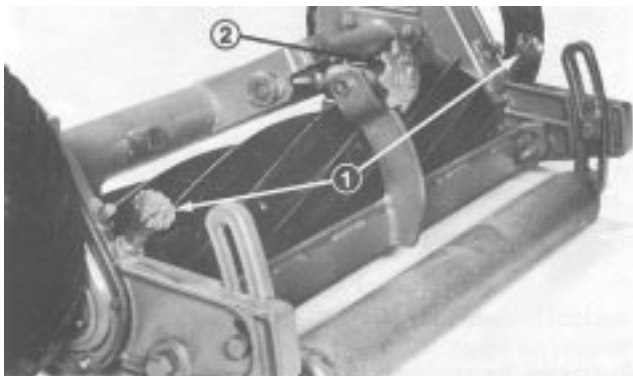

Figure 4
2. Make sure throwout knobs (Fig. 4) are disengaged and bedknife to reel contact is removed by turning bedknife adjustment knob counterclockwise.
3. Insert a long strip of newspaper between reel blade and bedknife. While rotating reel backward, turn bedknife adjusting knob (Fig. 4) clockwise, one click at a time, until paper is pinched lightly, which results in paper being cut or a slight drag when paper is pulled.